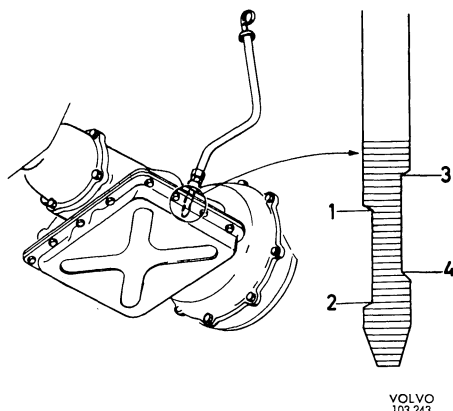

Fig. 4-61. Checking oil level
When checking the oil level, the car should be on a level surface. Move the selector to position "P" and let the engine idle. The filling pipe with dipstick is located in front of the bulkhead on the right-hand side of the engine. Pull up the dipstick, and wipe it with nylon cloth, paper or chamois leather. Fluffy rags must not be used. Insert the dipstick, then pull it up and note the oil level, see Fig. 4-61.
N.B. There are different oil level marks for a warm or cold gearbox. When the gearbox is warm, after the car has been driven about 5—7 miles (8—10 km), the upper area (3 and 4, Fig. 4-61) applies. The lower area (1 and 2) applies when the gearbox is cold. The text on the dipstick also mentions this difference.